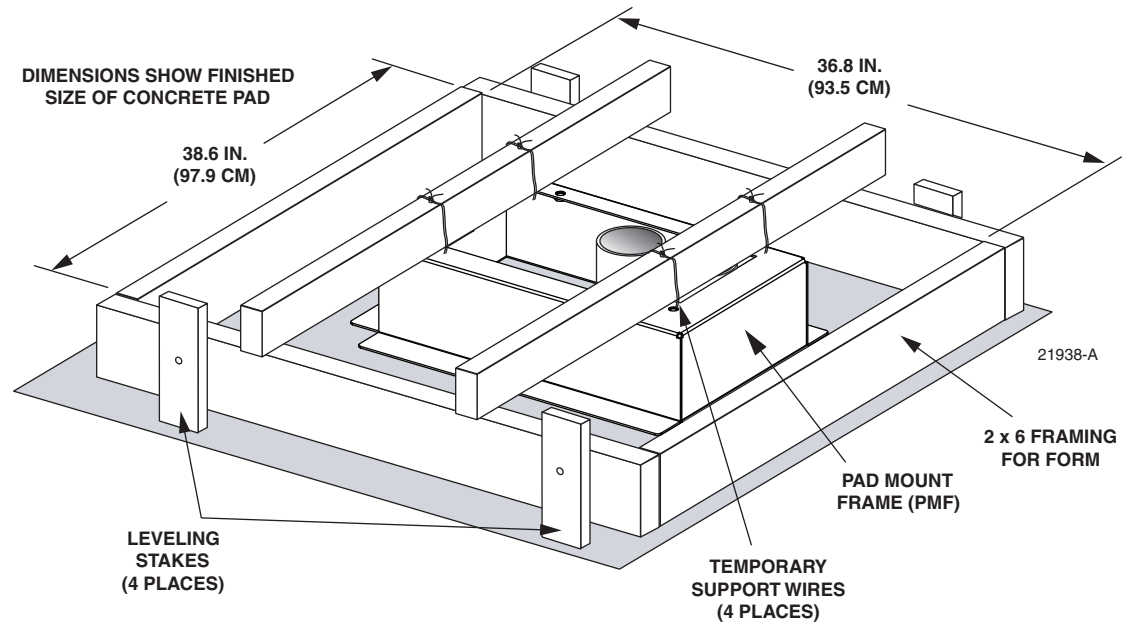

Figure 12. Concrete Pad Framing
1. Build a wood form for the concrete pad using 2 x 6 framing lumber as shown in Figure 12.
► **Note:** Use temporary top framing to keep the top surface of the PMF flush and level with the top of the concrete pad (see Figure 12).